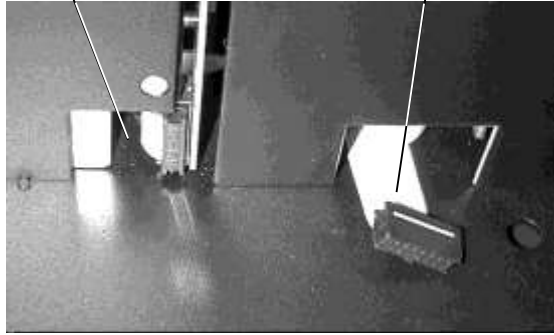

Figure 7-24 Drive Bay STORAG Connector and Cable
10. Disconnect the ribbon cable from the STORAG connector on the Drive Bay PCBA Assembly. See Figure 7-24. Although shown from the left side, it's easiest to remove the cable by reaching into the lower-right corner of the space once occupied by the Power Supply Module(s). The ribbon cable for the Storage Array is shorter and routed differently than the cable for the Carousel.
3. Reconnect the ribbon cable to the STORAG connector on the Drive Bay PCBA Assembly. See Figure 7-24. Although shown from the left side, it's easiest to access the cable by reaching into the lower-right corner of the space once occupied by the Power Supply Module(s). The ribbon cable for the Storage Array is shorter and routed differently than the cable for the Carousel.